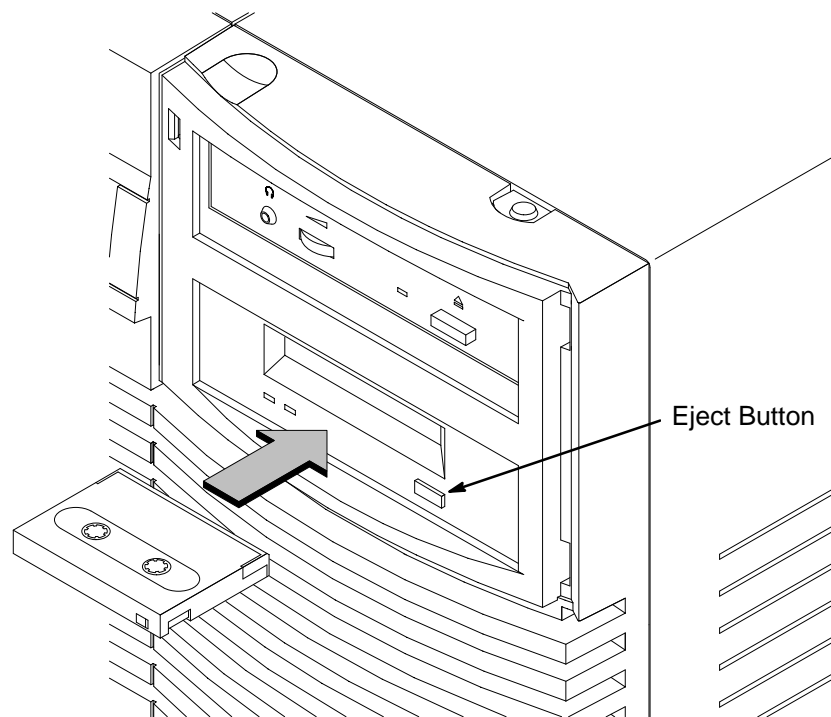

Figure 2-3. Loading a Data Cassette
1. Insert the data cassette into the drive, as shown in Figure 2-3.